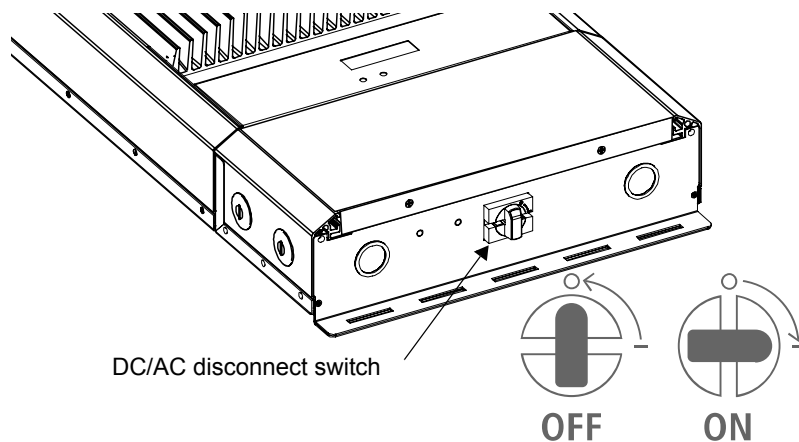

Figure 4-1 DC/AC Disconnect Switch Positions
1. Ensure the DC/AC Disconnect switch is in the OFF position (see Figure 4-1).
1. Switch the DC/AC disconnect switch to the ON position (see Figure 4-1).